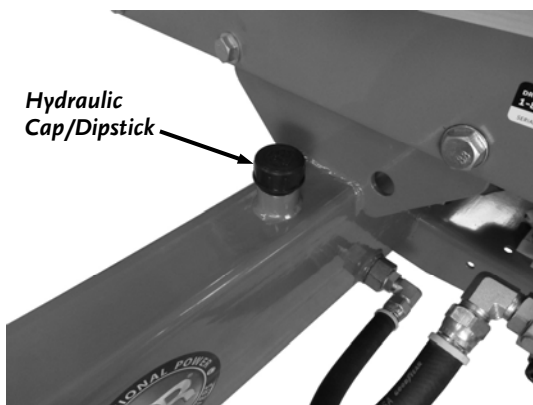

Figure 16
26. Install Hydraulic Cap/Dipstick into the hole on top of the Tank (**Figure 16**).